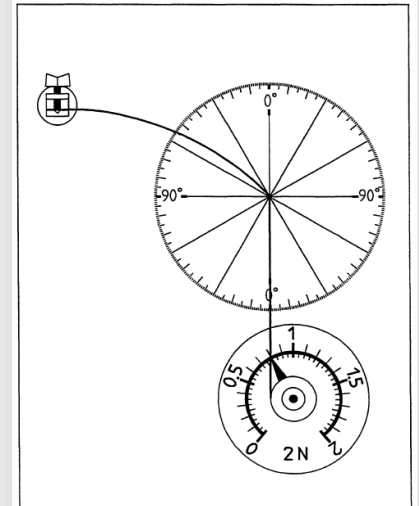

Figure 2
- Place the force gauge in the lower part of the panel so that the pull cord is vertical and a force of 0.8 N is indicated (Fig. 2).